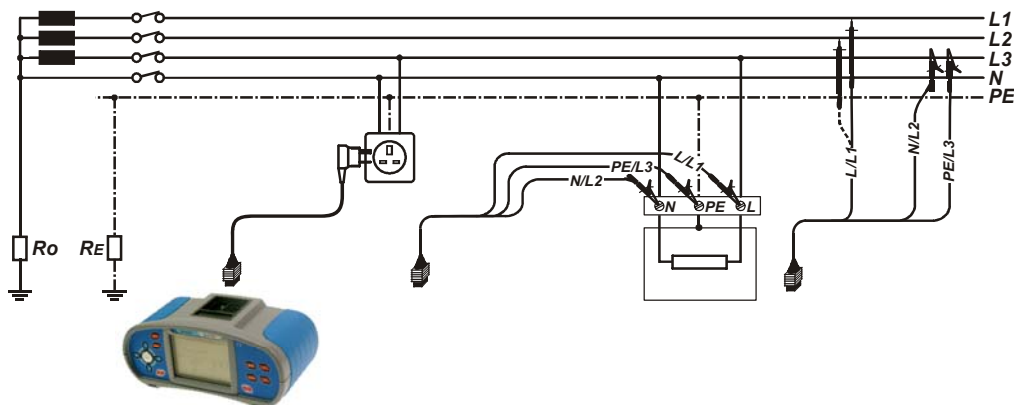

Figure 5.39: Phase-neutral or phase-phase line impedance measurement – connection of plug cable and universal test cable
- ❑ **Connect** test leads to the tested object (see figure 5.39).